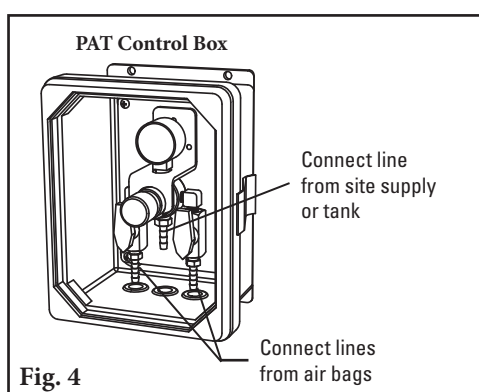

Fig. 4
4. **Connect the supply lines and set tension pressure.** With the parts supplied, attach a line to each air bag and run the lines to the outlet side of the control box (Fig. 4). **NOTE:** Be sure lines are safely away from the belt. Connect the line from the inlet side of the box to the site's supply or air tank. Test the connections for leaks and set the pressure per the chart below. Pressure may be reduced to suit application.